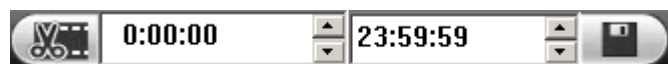

Figure 5-77
- In this following figure, input start time and end time. See Figure 5-77. Click save button .